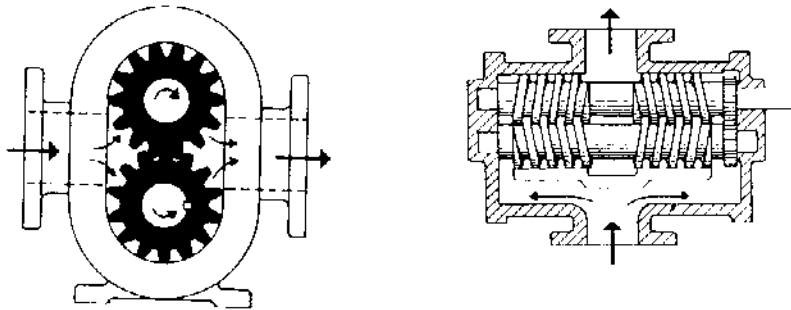

Figure 2 - Gear Pump and Screw Pump
In addition to centrifugal pumps, other types of pumps used in the industry include reciprocating and rotary pumps. These are also called positive displacement (PD) pumps, since they provide a constant volume displacement, regardless of the pressure generated. Centrifugal pumps on the other hand, provide variable flow rates over a range of pressures. Rotary pumps include gear pumps and screw pumps used with high viscosity liquids. Examples of these pumps are shown in Figure 2